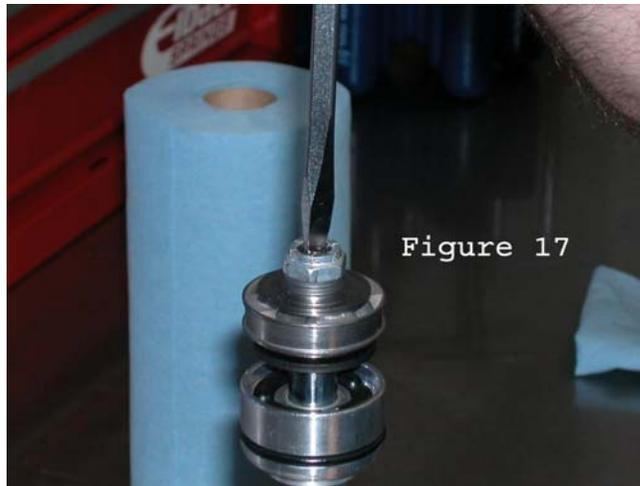

Figure 17
43. Using a 1/4" Flat Blade Screwdriver (newer jets use a 5/32 internal hex), remove rebound jet from end of shaft by rotating it in a counter-clockwise direction. **(Fig. 17)**